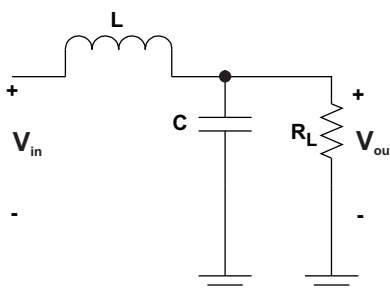

Figure 3. LC Filter for Single-Ended Operation
An LC output filter attenuates the high-frequency switching frequency of a Class-D amplifier for single-ended (SE) operation (Figure 3).